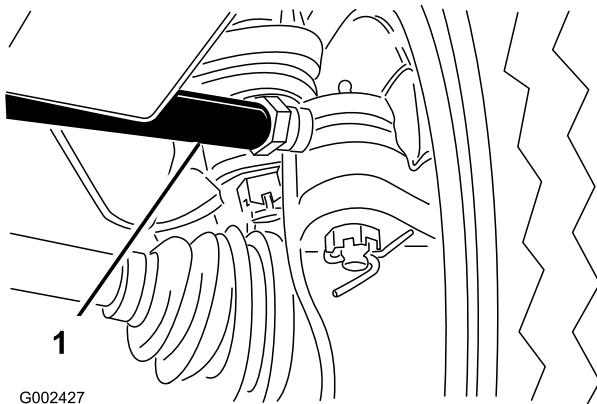

Figure 46
- On the left front wheel, loosen the jam nuts at both ends of the turnbuckle (Figure 46).